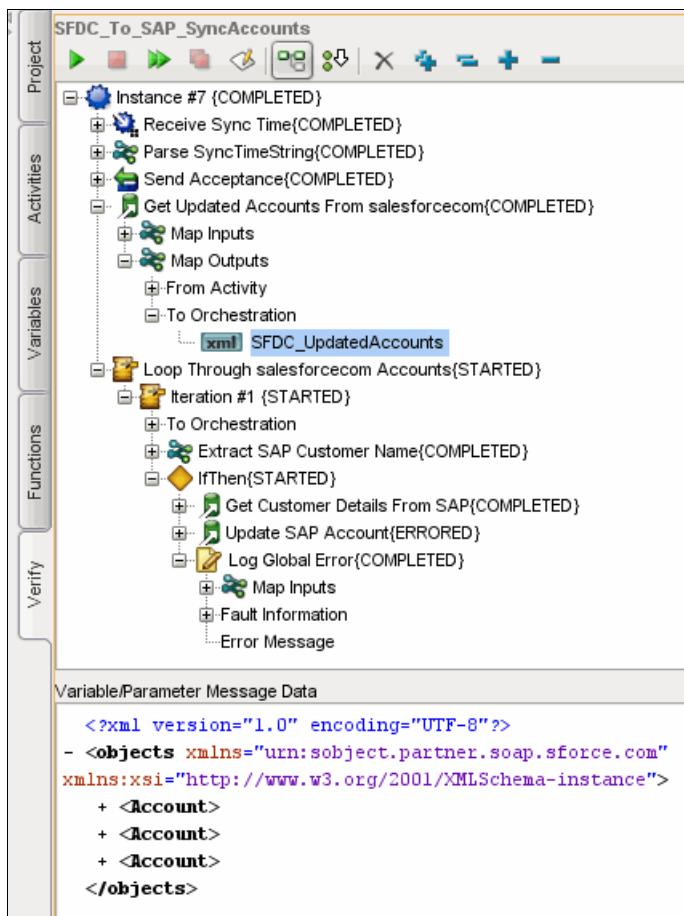

Figure 10-109 Test with failing SAP update but global catch
As an example, perform a test with a simulated SAP failure during SAP update. You can force this failure by removing the currency value from the mapping. Figure 10-109 shows the result. It shows that Salesforce.com returned three updated records. So the loop should have had three iterations. However, because the first one failed during the SAP update, the orchestration went into the global catch block, which then logged the error. Thus, no further updates were done.
2. On the Verify tab, expand the tree to show one loop iteration the Get Updated Accounts Map Output branch until you find the variable SFDC_UpdatedAccounts. Refer to Figure 10-109 on page 427.)